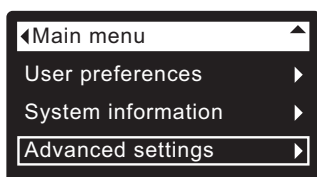

FIG. 79
1. From any of the rolling status screens, press the SELECT (O) button to display the **Main menu**.
2. Press the DOWN (▼) button to scroll through the menu options until **Advanced settings** is highlighted (See Figure 79).